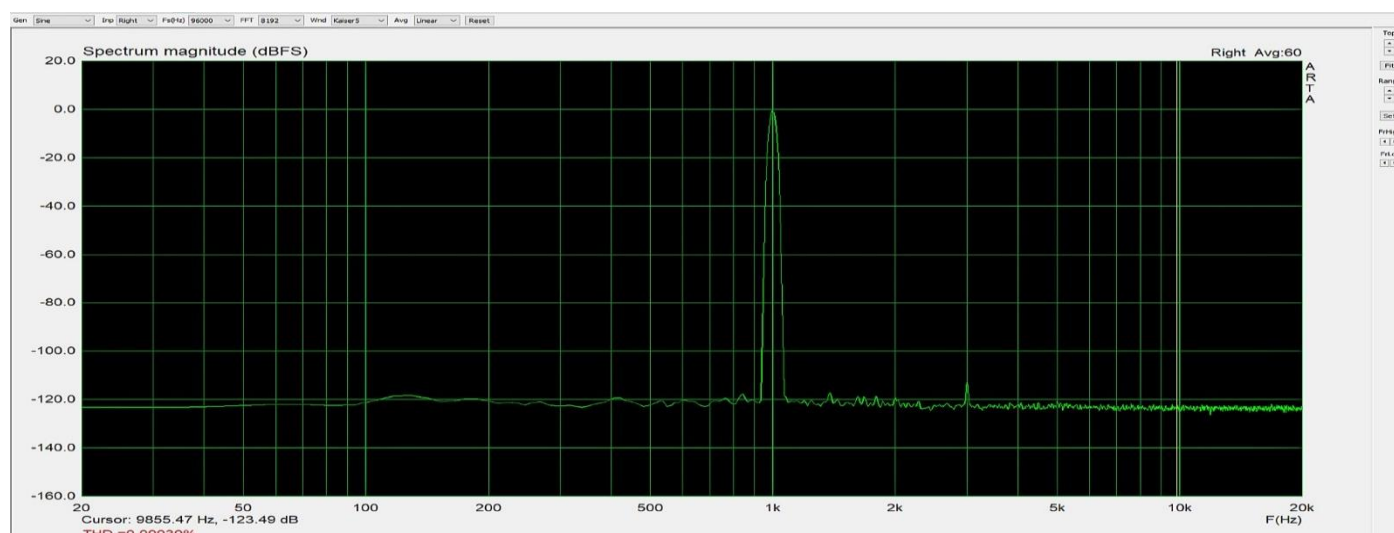
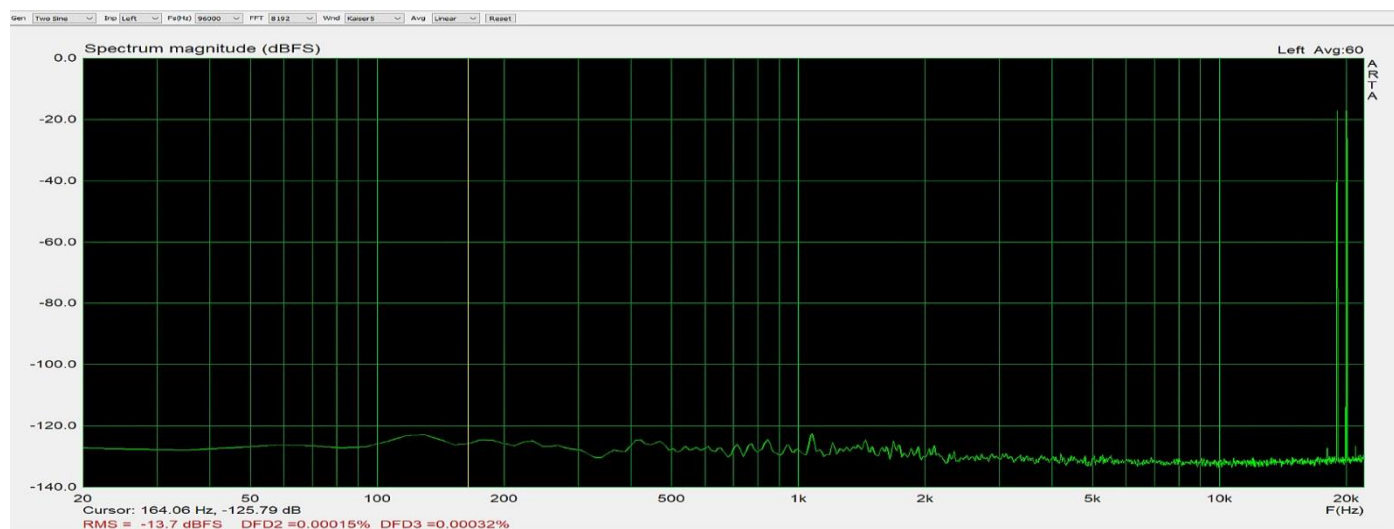

Fig 11, Incredibly low 3ppm distortion at 0dB@1KHz 16bits.
Fig 12, Very, very low IMD at -10dB peak
To complete measurements, THD and IMD tests were done as shown in Fig 11 and Fig 12.
- 5) Not to change too much components, modifications were made that lowered the noise but must not be seen as the one and only solution, because the op-amps with this mod have to process signals that are 4 times as large. Because of that small IMD distortion emerged with 19Khz+20Khz signals both at -6dB. That's 10dB more signal as used in Fig 12 in the review.